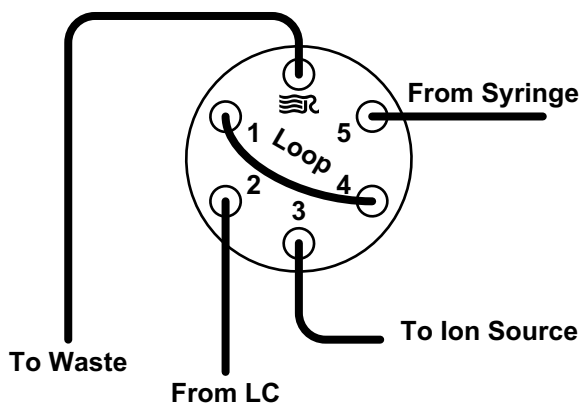

Figure 7-3. Divert/inject valve, showing plumbing for auto loop injection
- b. Connect the other end of the tubing fitted with a nut and a ferrule to port 5 of the divert/inject valve. See Figure 7-3.
- b. Connect an appropriate length of tubing fitted with a nut and a ferrule to port 3 of the divert/inject valve. See Figure 7-3.